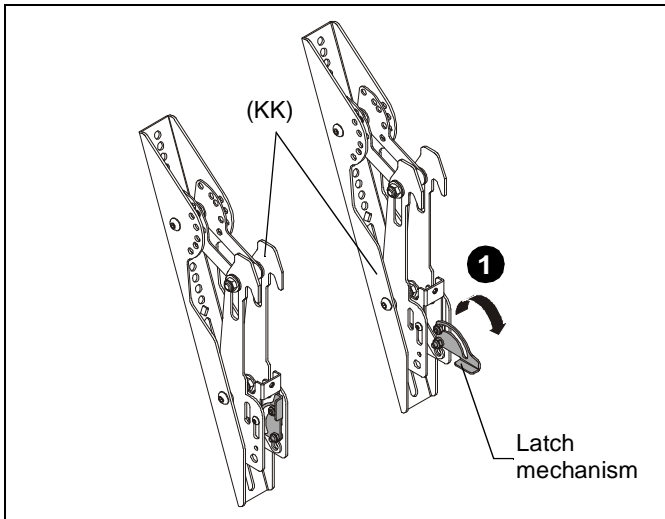

Figure 9
1. Lower the latch mechanism on each interface bracket (KK). (See Figure 9)
1. Ensure that the latch mechanisms on interface brackets (KK) are already lowered. (See Figure 9)